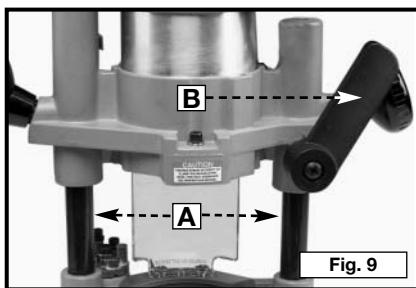

Fig. 9
CAUTION Do not allow the wrenches to contact the columns (A) Fig. 9. Columns could be damaged, restricting the plunge action.
- Release plunge mechanism by pulling the locking lever (B) Fig. 9 to the left. Lower the plunge mechanism until the router bit touches the work surface. Release the lever and push it to the right to lock the mechanism in this position.